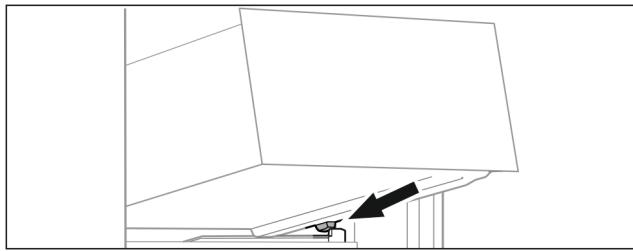

Fig. 94
- Place drawer at an angle behind the stoppers on the moulded rib. (see Fig. 94)